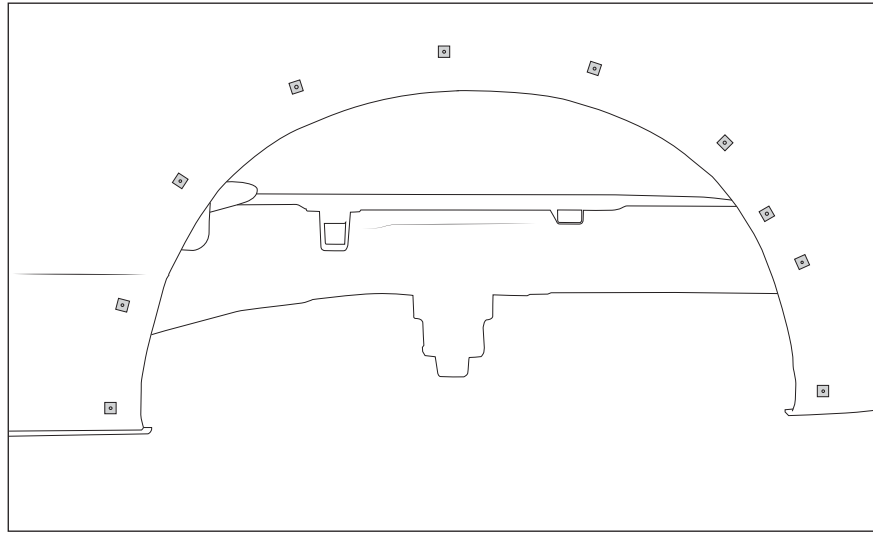

Figure 22
- E. Carefully remove the flare to make sure templates stick on the fender (fig. 22)